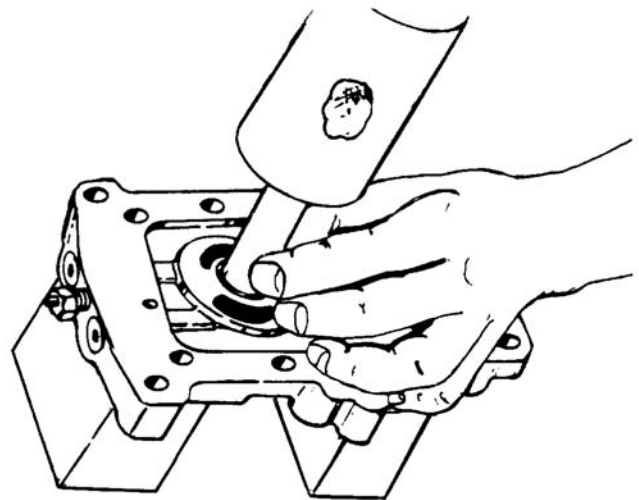

Figure 6-59. Pressing Needle Bearing Into Center Section
- b. Press needle bearing into center section. See Figure 6-59.